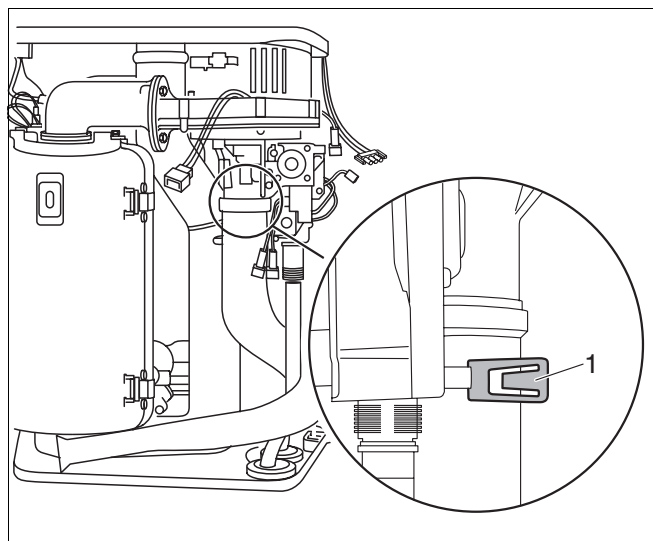

Fig. 78 Replacing the gas burner fitting on the 600 Series:
- Push the safety plate out of the way (fig. 78, item 1).